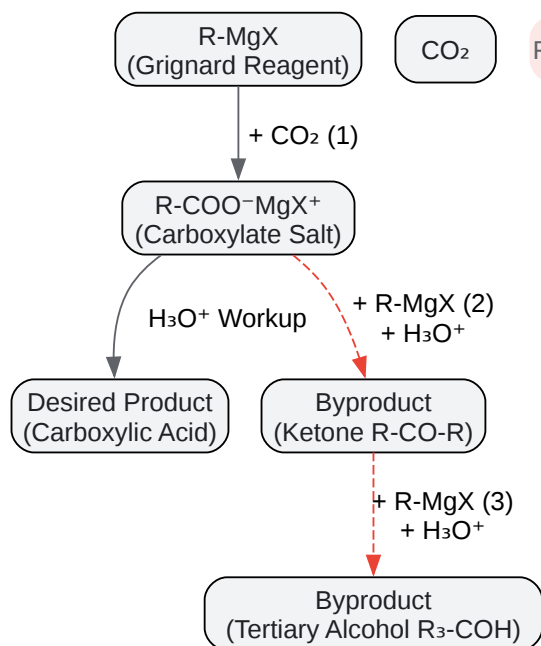

Fig 3. Pathway for ketone and alcohol byproduct formation.
Caption: Fig 3. The desired carboxylation (1) is followed by side reactions where excess Grignard reagent attacks the carboxylate salt (2) and the resulting ketone (3).